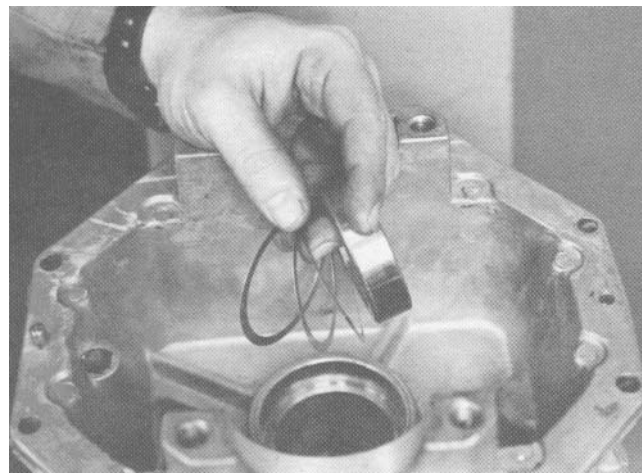

Figure 41
5. Install the correct bearing shims and a new inner bearing cup using a press plate of proper diameter. Push the bearing into the housing until it bottoms out against the shims (Fig. 41).